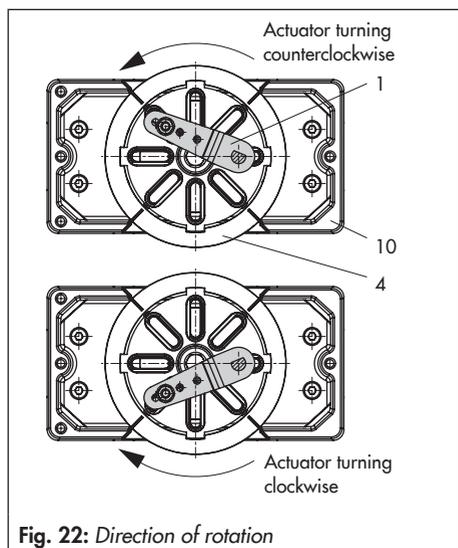

Fig. 22: Direction of rotation
- For **SAMSON Type 3278 and VETEC S160** Rotary Actuators, screw the adapter (5) onto the free end of the shaft or place adapter (5.1) onto the shaft of the **VETEC R Actuator**. Place adapter (3) onto **Type 3278, VETEC S160 and VETEC R** Actuators. For **VDI/VDE version**, this step depends on the actuator size.
- Fasten coupling wheel (4) on the slotted actuator shaft or adapter (3) using screw (4.1) and disk spring (4.2).
- Unscrew the standard follower pin (2) from the positioner's M lever (1). Attach the follower pin ( $\varnothing 5$  mm) included in the mounting kit to pin position  $90^\circ$ .
- Mount connecting plate (6) for required  $G \frac{1}{4}$  connecting thread or pressure gauge bracket (7) with pressure gauges on the positioner, making sure the two seals (6.1) are seated properly. Double-acting springless rotary actuators require the use of a reversing amplifier on the connection side of the positioner housing (see section 5.9).
- Place positioner on housing (10) and screw it tight. Taking the actuator's direction of rotation into account, adjust lever (1) so that it engages in the correct slot with its follower pin (Fig. 22).